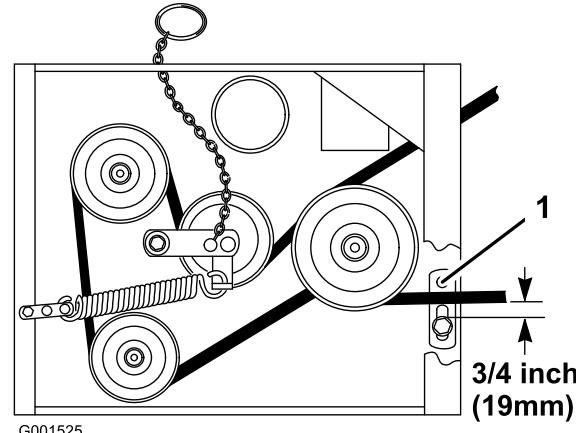

Figure 50
8. Check the belt guide under the engine frame for proper adjustment (Figure 50).
Note: The distance between the belt guide and the mower belt should be 3/4 inch (19 mm) when you engage the mower belt (Figure 50). Adjust the mower belt as necessary. The disengaged belt should not drag or fall off the pulley when the guides are properly adjusted.